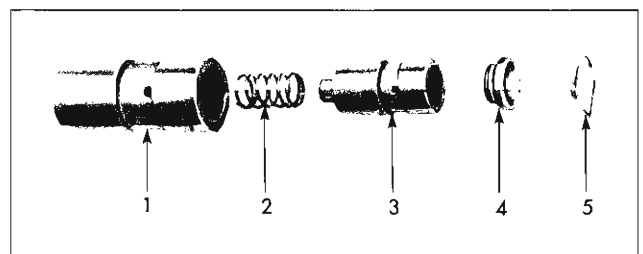

Fig. 6—Valve Lifter Components
2. Remove push rod seat, plunger and ball check valve assembly and plunger lifter spring. Figure 6 shows a layout of the parts.